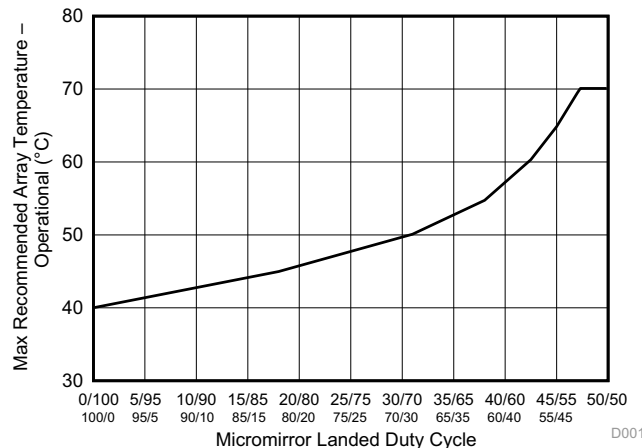

Figure 1. Maximum Recommended Array Temperature – Derating Curve
- (12) Per Figure 1, the maximum operational array temperature should be derated based on the micromirror landed duty cycle that the DMD experiences in the end application. Refer to Micromirror Landed-On/Landed-Off Duty Cycle for a definition of micromirror landed duty cycle.
- (13) Long-term is defined as the useful life of the device.
- (14) Short-term is the total cumulative time over the useful life of the device.